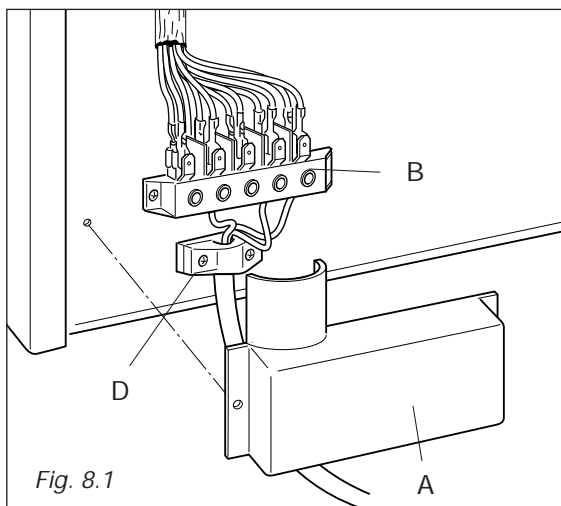
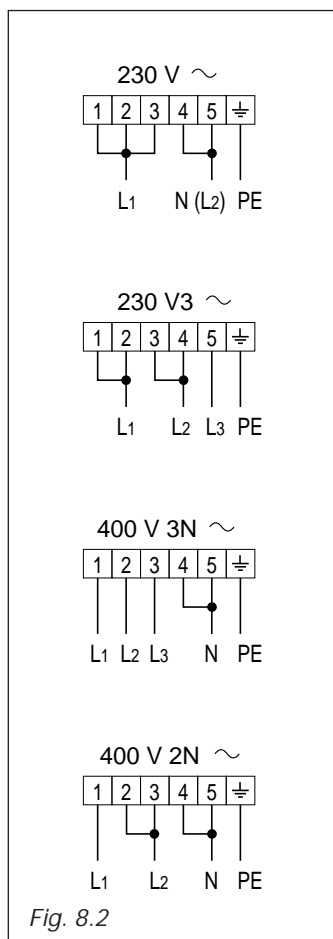

Fig. 8.1
Fig. 8.2
- Remove the two screws that hold shield **A** behind the cooker (Fig. 8.1).
- Fitted with a 5-pole terminal block, position the U bolts onto terminal block 'B' (fig. 8.1) according to the diagrams in figs. 8.2 - 8.3.
- Connect the phase and earth cables to terminal **B** according to the diagrams in figs. 8.2 - 8.3.